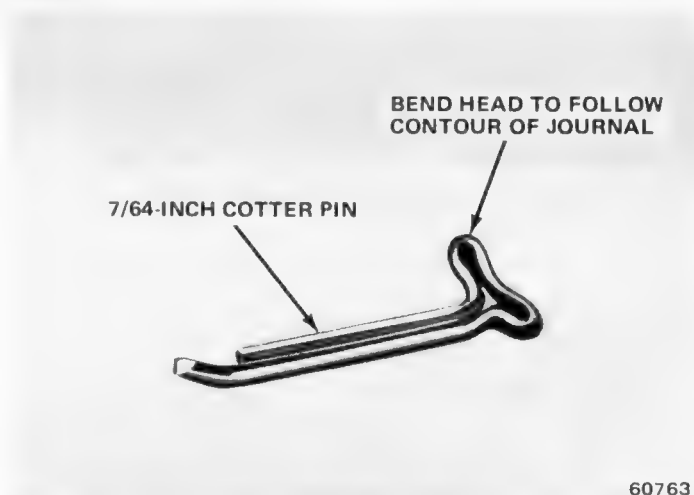

Fig. 1B-116 Upper Main Bearing Removal Tool
- (1) Wipe lower insert clean and inspect for abnormal wear pattern and for dirt or metal imbedded in lining. A normal main bearing wear pattern is shown in figure 1B-118.
- (2) Inspect back of insert for fractures, scrapings or irregular wear pattern.
- (3) Inspect locking tabs for damage.
- (4) Replace bearing inserts that are damaged or worn.